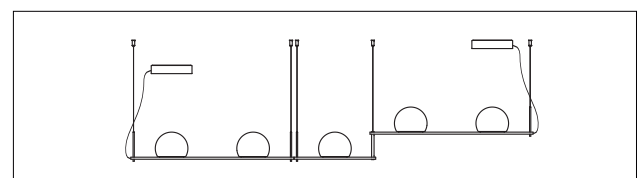

Figure 1C
- To be mounted joining two pendants (figure 1C) go directly to step 4.